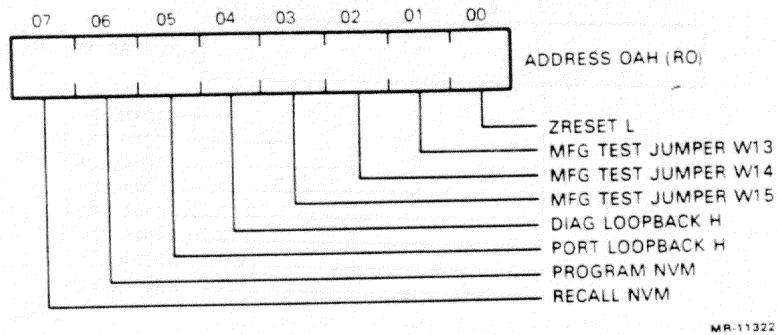

Figure 4-29 Diagnostic Read Register (8088) Format
4.4.9.2 Diagnostic Read Register: 8088 Processor – The diagnostic read register is an 8-bit read-only register that is used during diagnostic testing to read the status of a number of diagnostic control signals. The register is accessed by performing a read to address 0AH. The register bit format is shown in Figure 4-29 and the bits are described in Table 4-15.